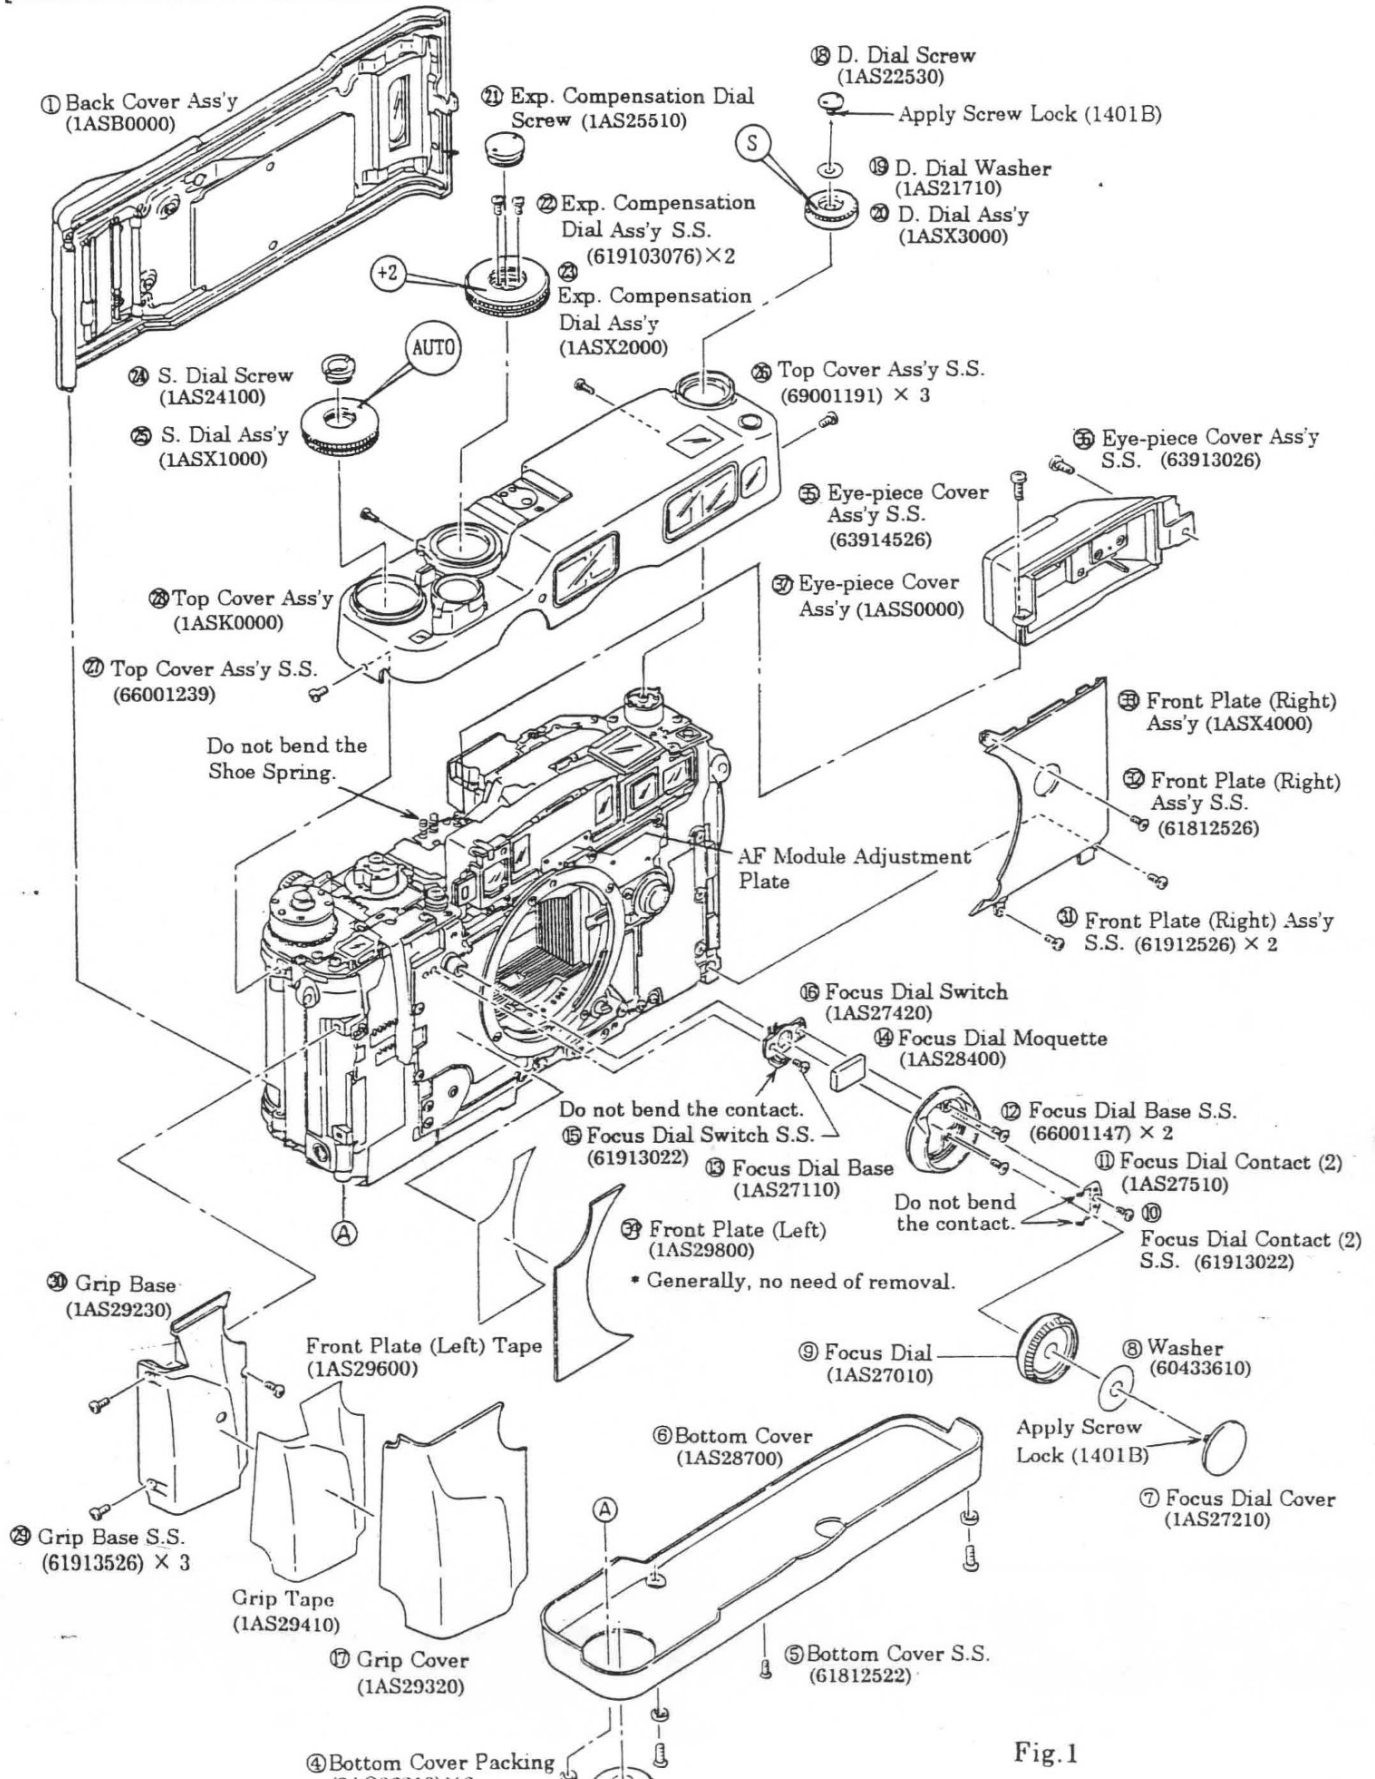

Fig.1
- 1) Remove exterior parts in the numerical order of ① to ⑭ shown in Fig. 1.
- 3) Remove exterior parts in the numerical order of ⑰ to ⑳ shown in Fig. 1.